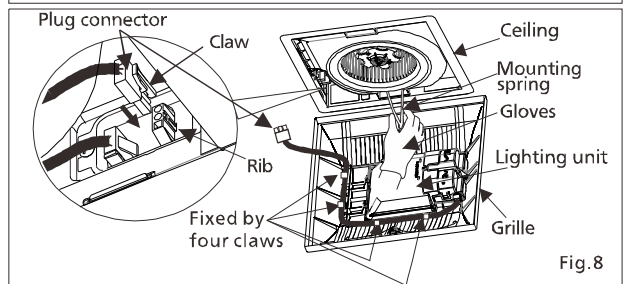

Fig.8
Before turn on the light, make sure the conector insert at the correct position. If not, the lighting can't work. (Fig.8)
The claw of connector must latch the rib completely. (Fig.8)
11. Insert the grille mounting spring which is on the wiring side into the slot. Then Insert the plug connector into the housing of the Junction box. (The lead wire should be fixed by the four claws in the grille). Insert the other mounting spring into the slot as shown and mount grille to fan body. (Fig.8, Fig.9)